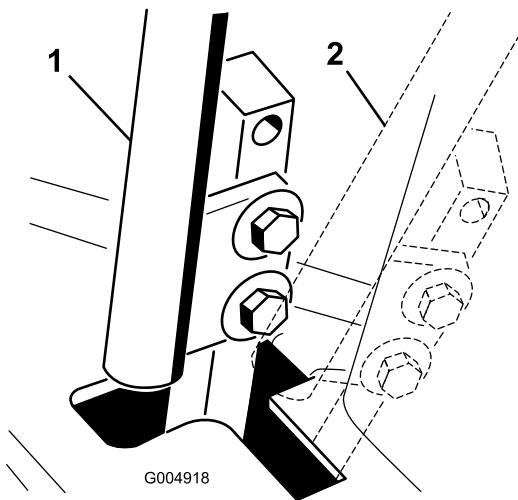

Figure 63
4. Move one of the levers to the neutral position but **not locked** (Figure 63).
6. Check where the control lever is relative to notch in console (Figure 63). It should be centered allowing lever to pivot outward to the neutral lock position.